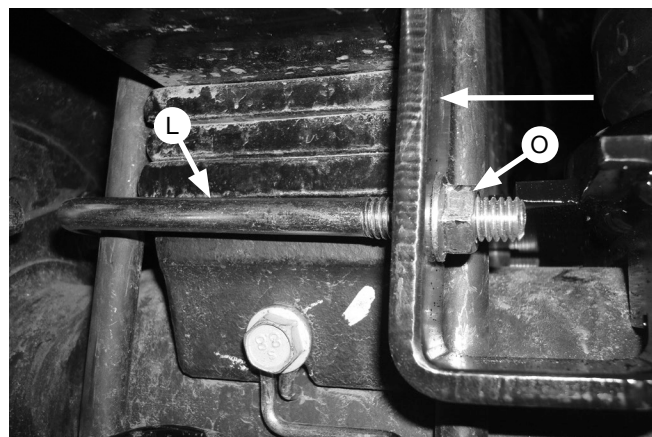

Fig. 9
2. On both sides, install the U-bolt (L) around the leaf spring stack and through the lower bracket flanges (Fig. 9). Install two 3/8" serrated flange lock nuts (O) onto the U-bolt and leave loose at this time. Push the lower bracket against the stock U-bolt stack as tight as possible.